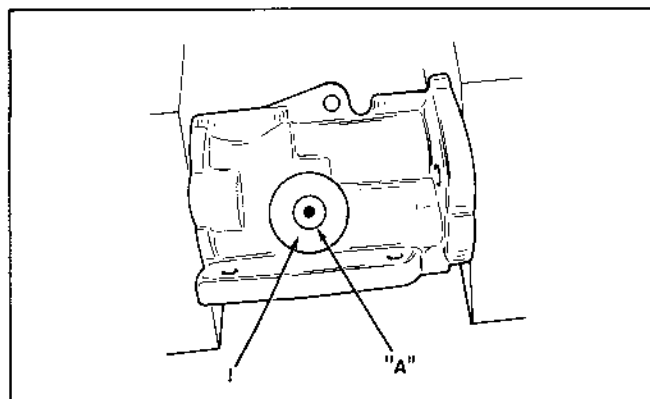

Figure 7-12. Removal of Inside Valve
(2) Carburetor Body Valve, Figure 7-12 through 7-15.
- a. With $9/64$ " drill enlarge hole "A" in valve. (Fig. 7-12 and 7-13).
- (a) Install the new valve by placing it in the carburetor body and driving it into position with a $5/16$ " flat-face punch. The valve face should be flush with the surrounding base of the cavity in the carburetor body (Figs. 7-12 and 7-16).